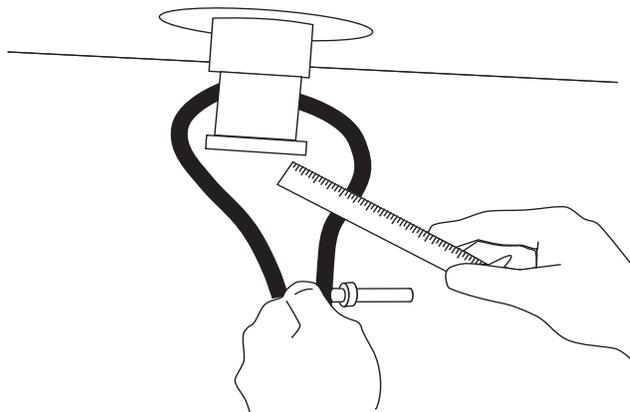

Figure 5. Inspection of Kingpin for wear
2. Check the kingpin for wear or damage. Replace it if the diameter measures less than 1 7/8" at any point (see figure 5).